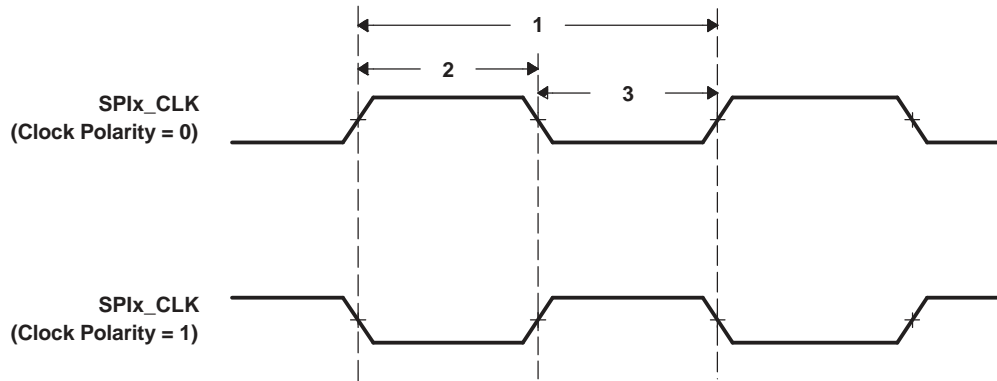

Figure 6-62. SPI\_CLK Timing
**Table 6-79. Timing Requirements for SPI (All Modes)(1) (see Figure 6-62)**